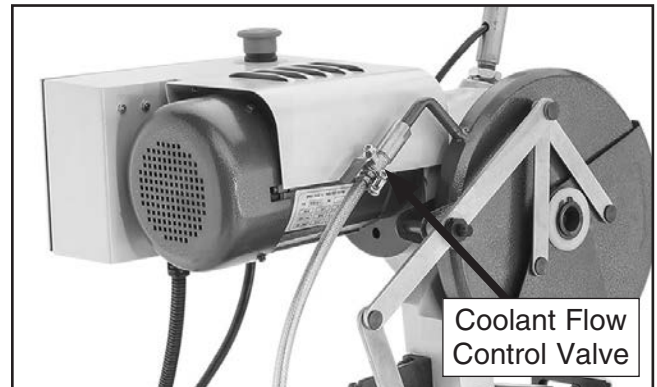

Figure 21. Location of coolant flow control valve.
7. Slowly turn coolant flow control valve to open position (see **Figure 21**). Coolant should begin flowing onto blade.